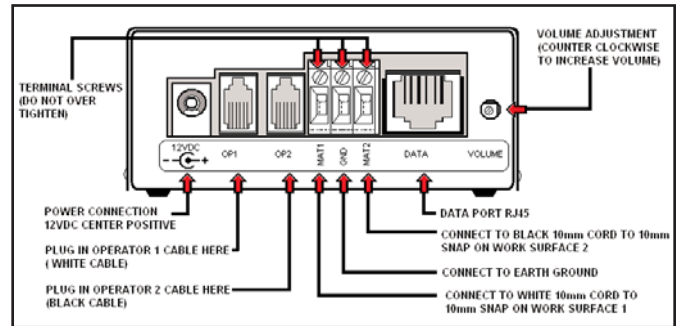

Figure 2. 94319 Rear View
- Attach the tinned wire ends of the mat wires to the appropriate screw terminal connection on the rear of the unit. (See Figure 2). The white wire is for operator #1 and the black wire is for operator #2.
H. Route the operator remote wires to the monitoring unit and insert the modular plugs into the appropriate jacks on the rear of the unit. (See Figure 2)